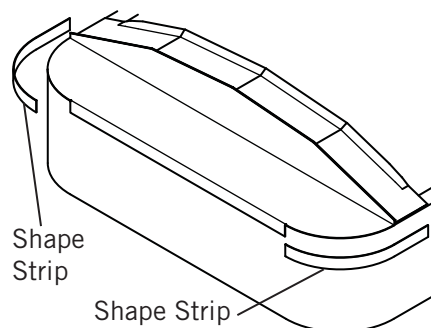

Figure 12
- 3) Figure 12.** Attach with 3/8 x 1 Type F HWH Bolts through trough into top rail.
- 4) Figure 12.** Shape the aluminum strip around the corner of the trailer, mark and cut to length for both sides.